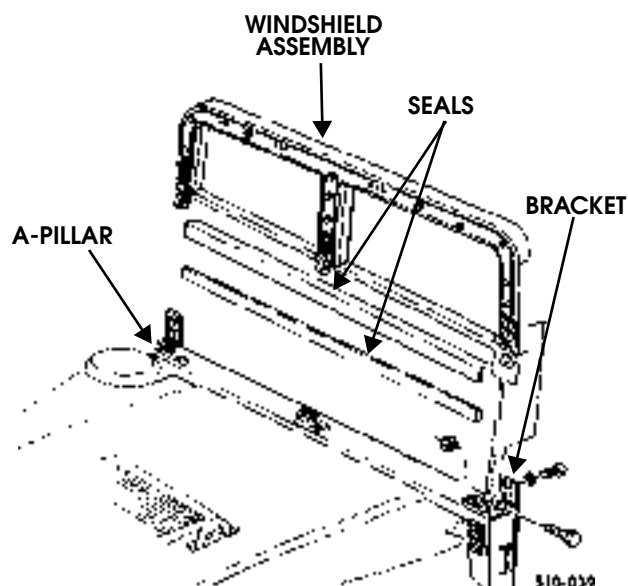

Figure 10-103: Windshield Assembly Mounting
5. Remove two locknuts and bolts securing windshield assembly to A-pillar (Figure 10-103).
7. Remove six bolts and washers securing windshield assembly to two brackets (Figure 10-103).
1. Position two seals on windshield assembly (Figure 10-103).
5. Secure windshield assembly to A-pillar with two bolts and locknuts (Figure 10-103).